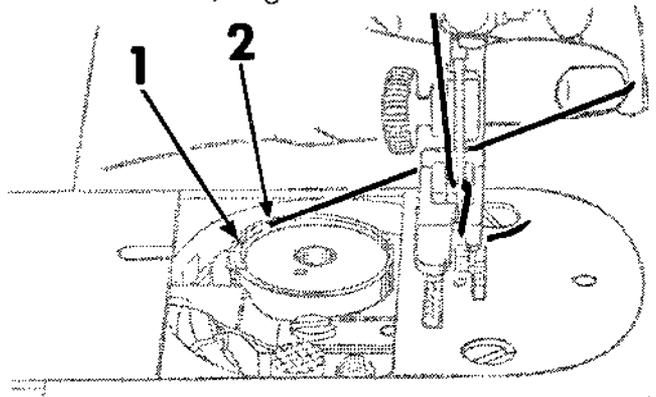

FIG. 25.
- Draw thread between case and tension spring until it reaches notch 2, Fig. 25.